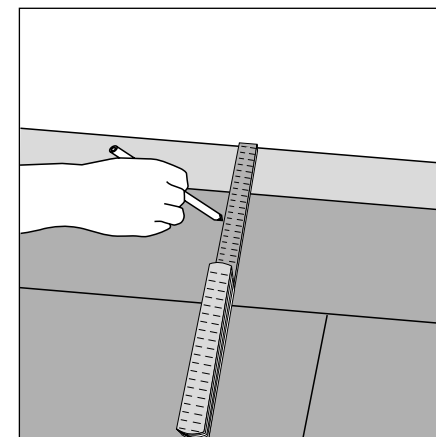

Figure 6.15 Managing uneven walls
- ▶ Use the edge of this board to mark the cutting line with a pencil on the board beneath. Remember to allow for the expansion gap (Figure 6.15).